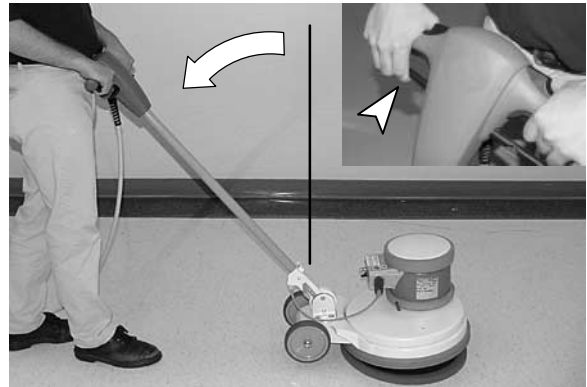

FIG. 10
3. Lower the handle to a desired operating height by pulling the handle height adjustment lever. Release lever to engage handle (Figure 10).